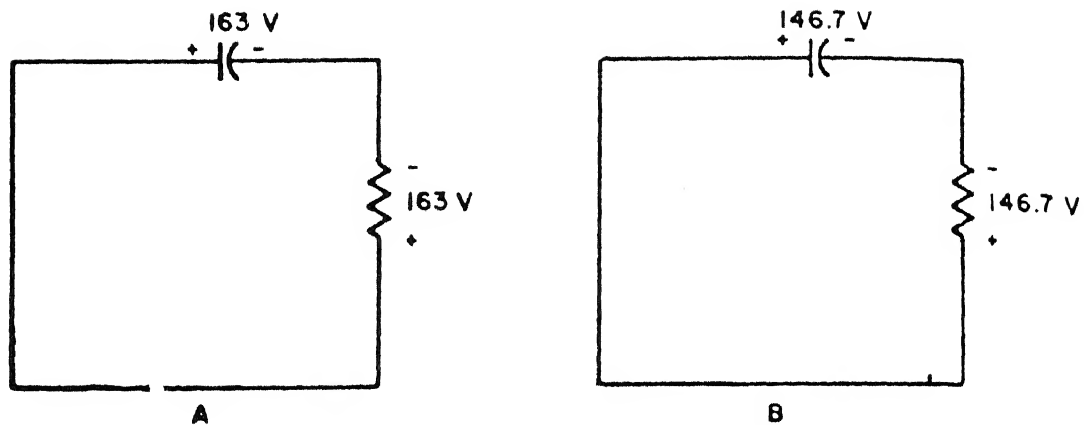

Figure 7
6. The switch is then thrown to position 3, taking only E_C with you. Refer to figure 7.